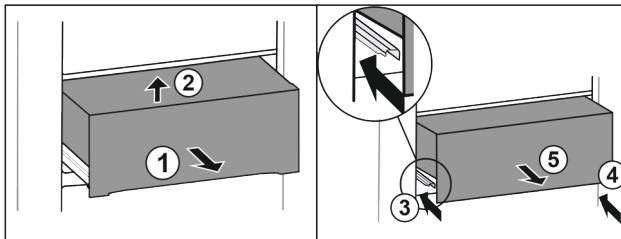

Fig. 30*
- Pull out the drawer half-way Fig. 30 (1).*
- Lift at the front Fig. 30 (2).*
- Insert left rail Fig. 30 (3).*
- Insert right rail Fig. 30 (4).*
- Take out the drawer to the front Fig. 30 (5).*